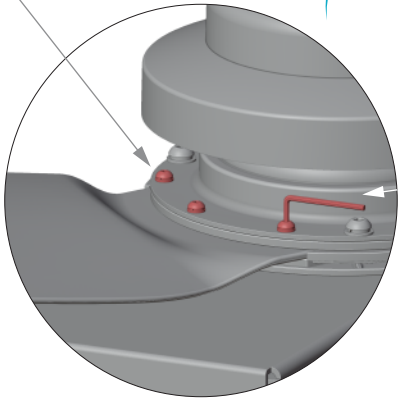

fig. 5.1
- Now insert the screw, spring washer and the plain washer from top (fig. 5.1) and tighten the same with the provided Allen key.